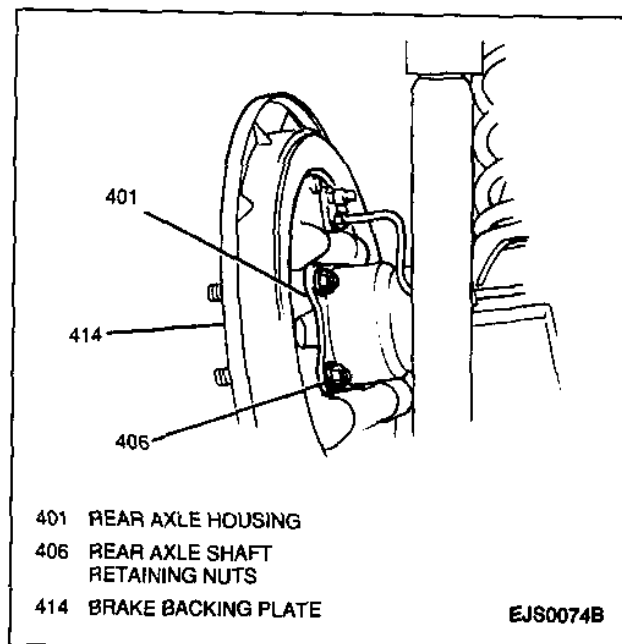

Figure 7—Removing Rear Axle Shaft Retaining Nuts
8. Four rear axle shaft retaining nuts from rear axle shaft bearing retainer studs behind brake backing plate (Figure 7).